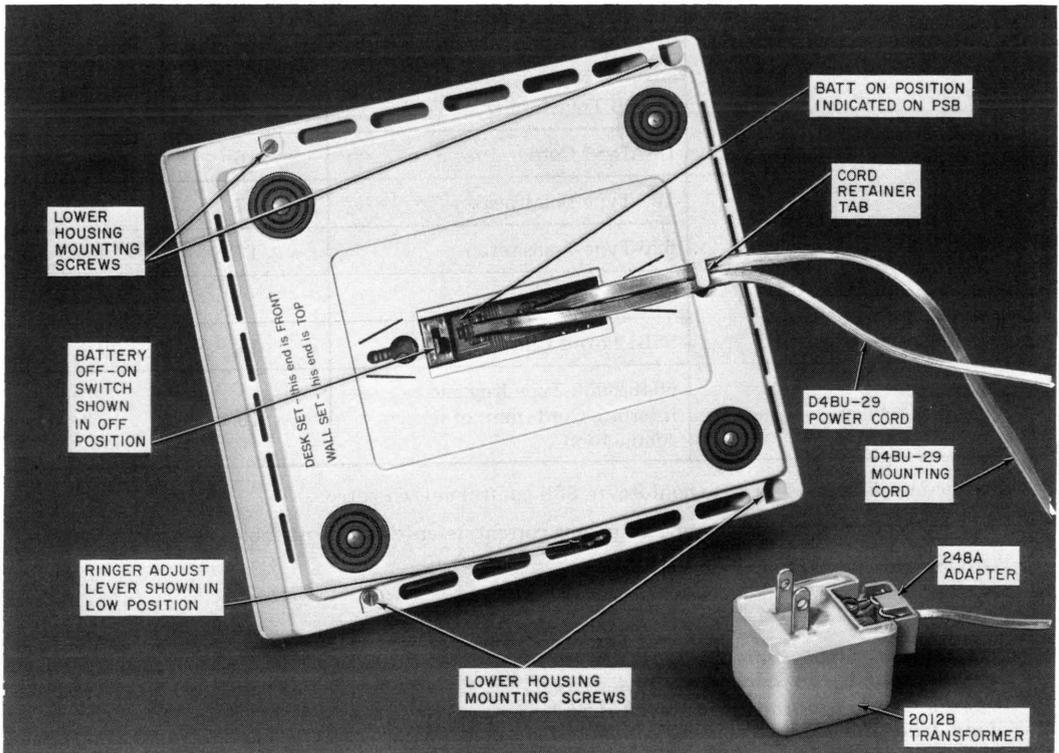

Fig. 2—960A01M Telephone Set, Bottom View
- Battery OFF-ON switch (located on the bottom of the set, Fig. 2), should be in the OFF position when set is not in service.
- (1) Adapter, 248A (to connect D4BU modular cord to 2012B transformer) Fig. 2.
3.04 Attach 248A adapter to 2012B transformer (Fig. 2) and plug into 110-117 volt AC outlet
3.06 The set is shipped from the factory with a discharged battery installed and with the battery switch in the OFF position. After all wiring changes and modifications have been completed, tilt the set up and move the battery switch arm (now visible in the bottom view of the set, Fig. 2) to the ON position.
Note: The switch ON position is indicated on the bottom of the printed wiring board (Fig. 2) and if switch is not placed in ON position, the set will not record or automatically dial.
Note: Dress all cords under retainer tab at bottom rear of housing, Fig. 2.
- **Battery Switch**—soldered to power supply printed wiring board with switch arm accessible at bottom of set through opening near center of lower housing (Fig. 2).
- **Mounting Cord and Power Cord Jacks**—slid into adjacent cavities on the bottom side of the center wall of the chassis. Jacks are held in place when power supply board is fastened to bottom of chassis and are accessible through holes in the lower housing and power supply board (Fig. 2 and 7).
- **Lower Housing**—fastened by four screws to the bottom of the chassis (Fig. 2).
- (1) Remove the modular mounting and power cords from under the retainer tab and unplug cords from jacks in the bottom of the telephone set (Fig. 2).
- (2) Disengage the four captive screws located at the corners of the lower housing on the bottom of the telephone set (Fig. 2).
- (3) Remove the lower housing.
- (4) To replace the lower housing, reverse the procedure.